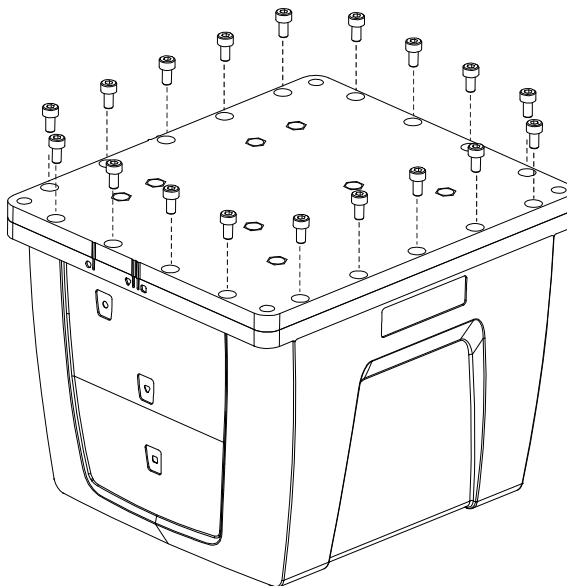

Figure 64: Remove Base
1. Using a 3 mm hex bit, remove the M4 screws (they will be reused) and the base, as shown in *Figure 64*.